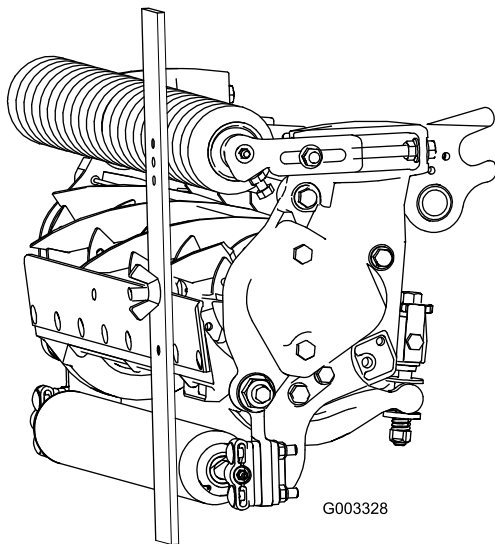

Figure 24
- Hook the screw head on the cutting edge of the bedknife and rest the rear end of the bar on the rear roller (Figure 24).
- Rotate the adjusting screw until the front roller contacts the gauge bar (Figure 24). Adjust both ends of roller until the entire roller is parallel to the bedknife.